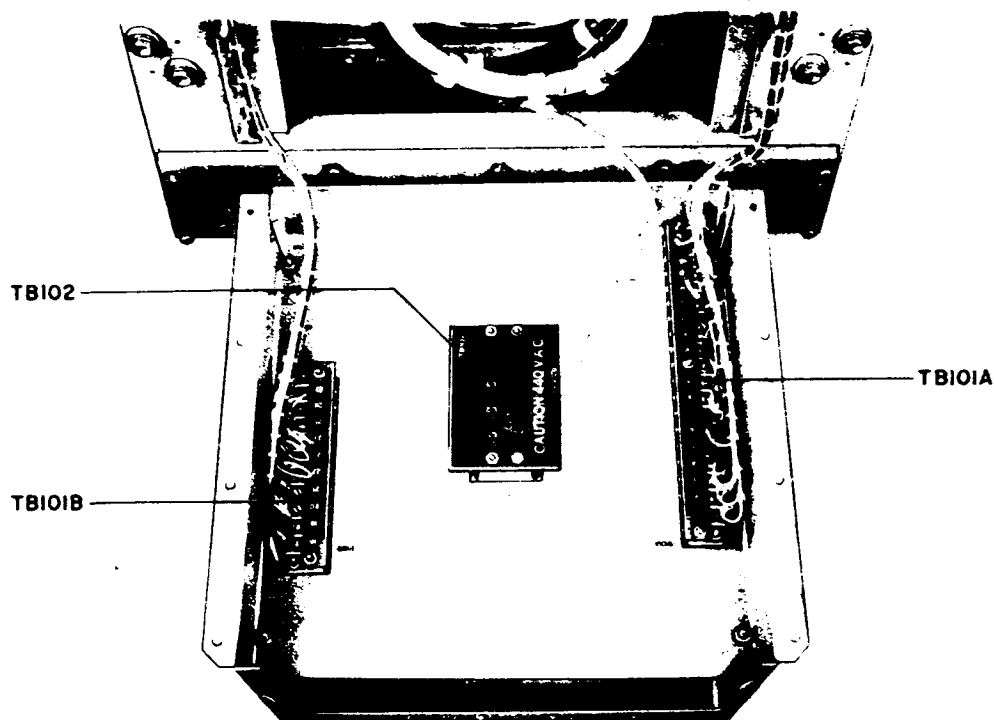

Figure 2-3. Electrical Equipment Cabinet CY-2607/WRT-1, Terminal Junction Box
Step 12. Refer to figure 2-3 and disconnect terminal boards TB101A and TB101B mounted in the terminal junction box.
Step 1. Refer to figure 2-3 and reconnect terminal boards TB101A and TB101B to the junction box.